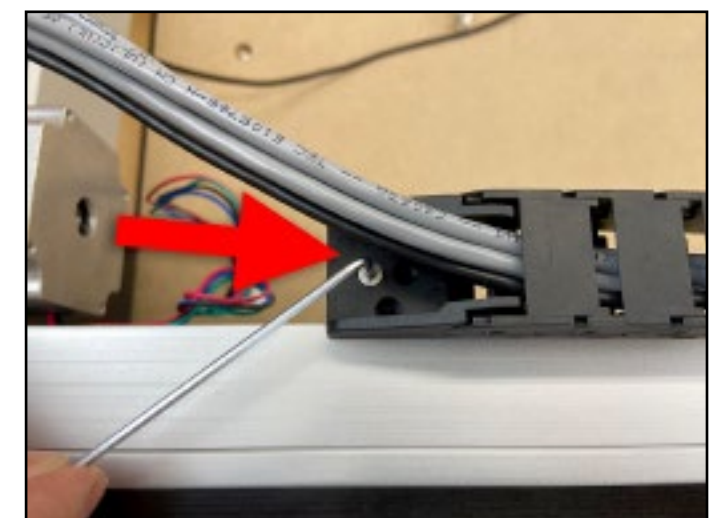

Figure 6-16
4. Use the 2mm hex key and one (1) M3x4mm flat head screw to secure the tail of the X-Axis drag chain to the single PEM nut in the tail bracket. Use the center through-hole closest to the end of the drag chain. See **Figure 6-16**.